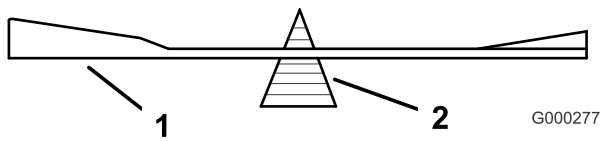

Figure 54
2. Check the balance of the blade by putting it on a blade balancer (Figure 54). If the blade stays in a horizontal position, the blade is balanced and can be used. If the blade is not balanced, file some metal off the end of the sail area only (Figure 52). Repeat this procedure until the blade is balanced.